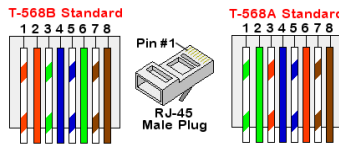

Figure 30: Ethernet connector - pin layout
CAT6 cables have eight wires (four twisted pairs), as shown in the pin layout of the Ethernet connector in *Figure 30*. Wire colors may differ from one cable to another. You can use either wiring standard, as long as both sides of the cable have the same pin-out
- Insert the eight wires into an RJ45 connector, as shown in *Figure 30*.